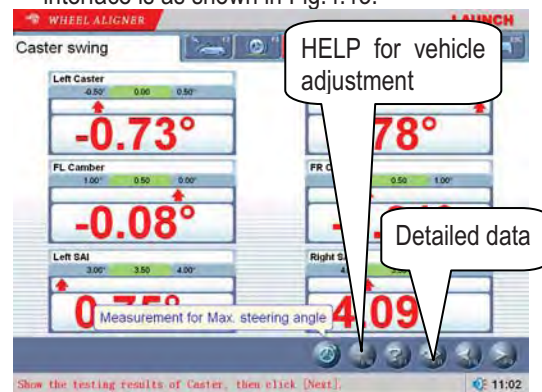

Fig.4.13
4. After test finished, please center the steering wheel. The system will automatically return to the next page to check the measurement result. The interface is as shown in Fig.4.13.